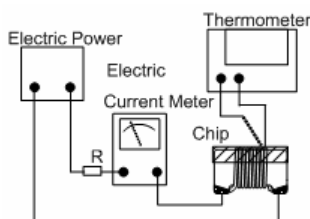

Fig. 5.3.5-1
- d. Definition of Rated Current (I_r): I_r is direct electric current as chip surface temperature rose just 15°C against chip initial surface temperature (T_a) (see Fig. 5.3.5-2).